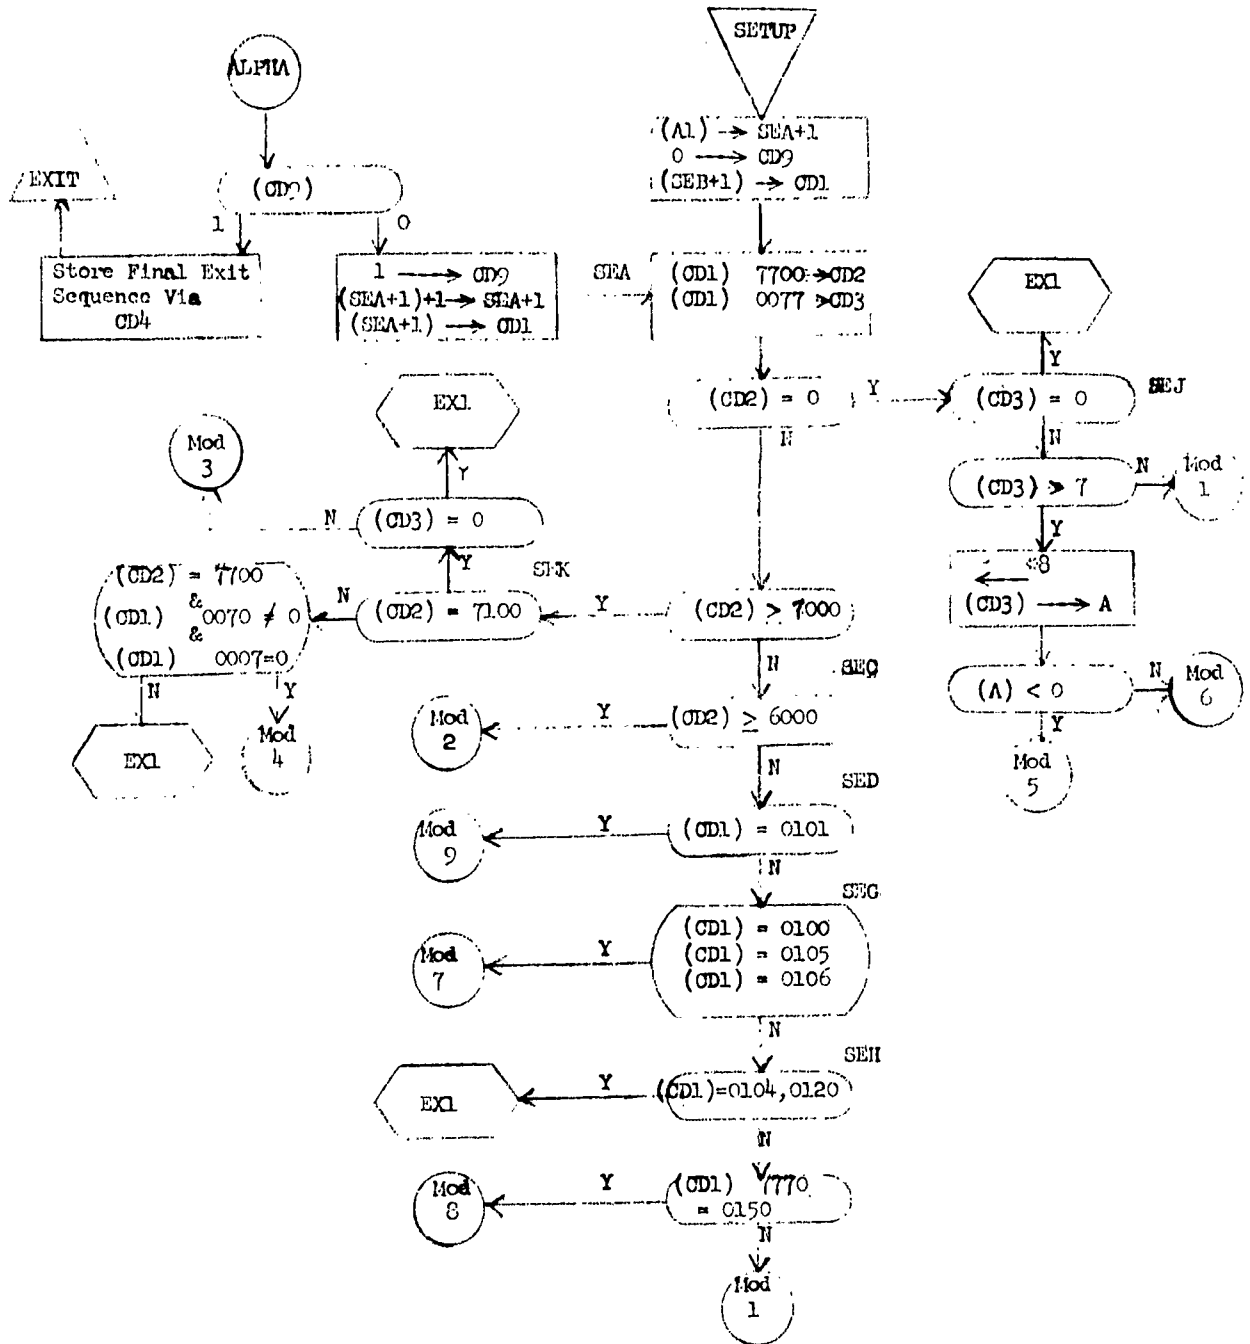

Figure 7.26 SETUP
### 7.3.7.3 SETUP Module Control Sequence (Figure 7.26)
- o. Each time a Module completes a translation, it returns to ALPHA (upper left portion in Figure 7.26). ALPHA is step p.
- c. Return to ALPHA (Figure 7.26).